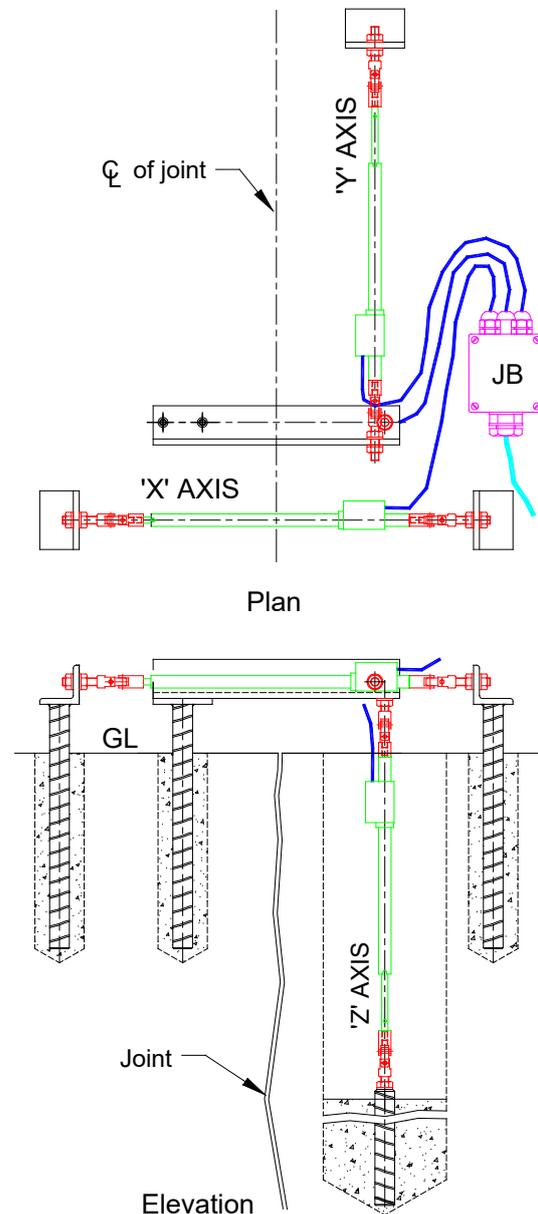

Figure 3 – Installation plan & elevation
7. Drill holes as per marked drilling plan in figure 3.
8. Four holes "A" to be drilled with diameter 50 mm and depth 200 mm. For Z direction installation hole with diameter 125 mm and depth L3 mm (figure 3) is required. While fixing brackets with more